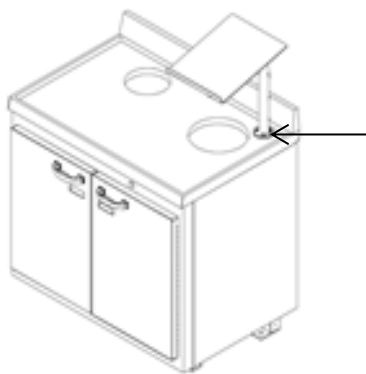

Figure 2.4. *PET Unit Dose Cabinet Illustrating Positioning of the Support Arm*
1. Using a 7/16" wrench, remove the four acorn nuts and flat washers that are used to secure the Dose Calibrator Display Shelf support post to the countertop. The nuts and flat washers are found on the threaded studs on the counter top (see Figure 2.4).
2. Place the support arm on the threaded studs positioned over the rear, right opening (see Figure 2.4). The arm should face the front of the cabinet. Place the washers on the studs and the acorn nuts over the washers. Adjust the arm and tighten the acorn nuts.
- Using a 7/16" wrench, remove the four acorn nuts and flat washers that are used to secure the Dose Calibrator Tablet Shelf support post to the countertop. The nuts and flat washers are found on the threaded studs on the counter top (see Figure 2.4).
- Place the support arm on the threaded studs positioned over the rear, right opening (see Figure 2.4). The arm should face the front of the cabinet. Place the washers on the studs and the acorn nuts over the washers. Adjust the arm and tighten the acorn nuts.